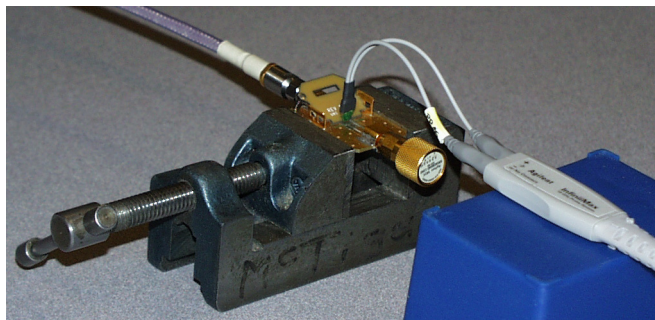

Figure 218 Setup for Measuring V_{out}
- 39 Connect the Calibration Standard load to PV/DS test board (non-pincher side) as shown in **Figure 218**.